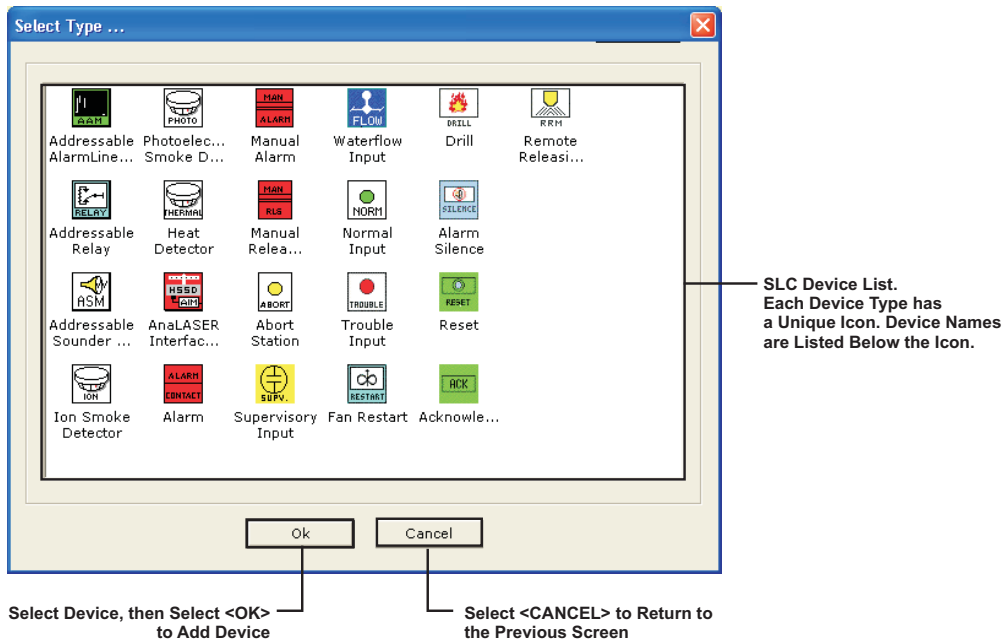

Figure 2-5. SLC Device List
3. Enter the starting and ending device address(es), then select **<OK>**. Figure 2-5 displays showing the list of SLC devices.